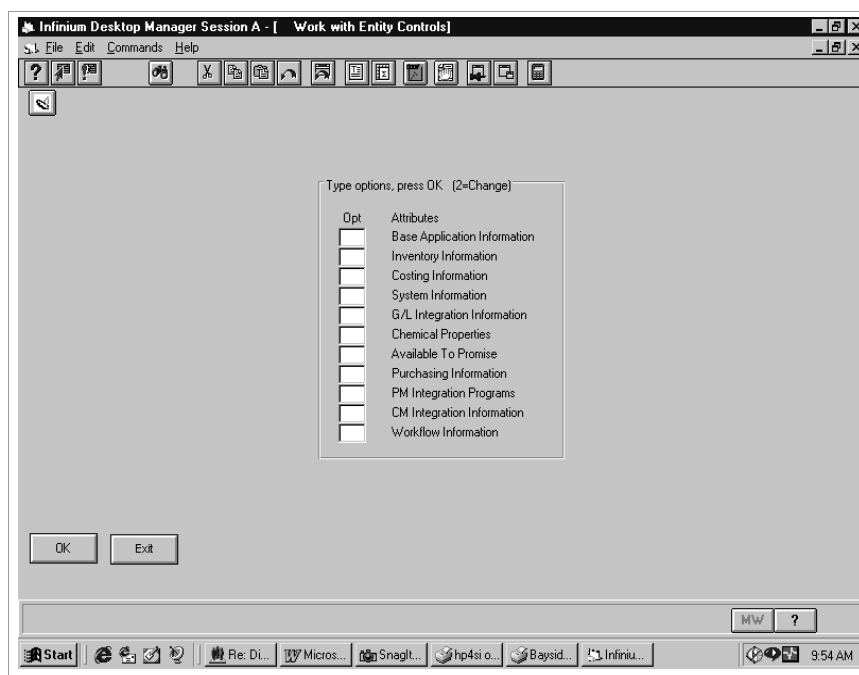

Figure 4-2: Work with Entity Controls Selection screen
- 2 Select *Work with entity controls* [WWE]. The system displays the screen shown in Figure 4-2.